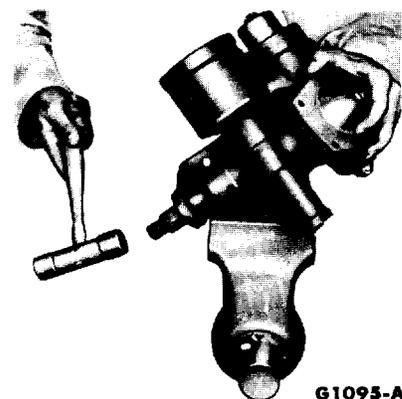

FIG. 9—Sector Shaft Removal
7. Loosen the sector shaft adjusting screw locknut and adjusting screw. Remove the 5 cap screws that retain the steering gear housing cover to the housing. Tap on the lower end of the sector shaft with a soft faced hammer until the sector shaft and cover can be removed (Fig. 9). Remove and discard the housing cover gasket. Slide the cover to one side to release the adjusting screw from the sector shaft, and remove the adjusting screw from the cover.